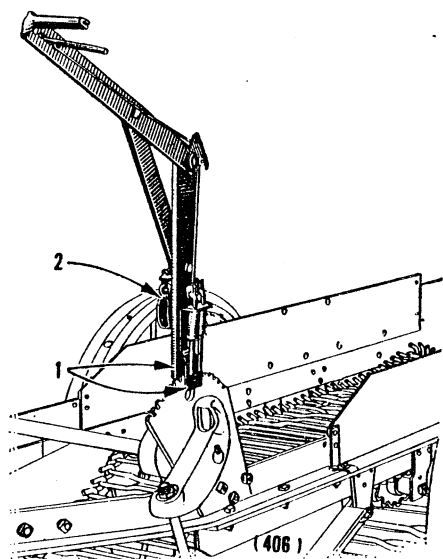

Figure 15
1. (Figure 15) Slide the lever over the sector and attach to the lever foot casting. The two large round holes in the sector permit insertion of the plow bolts holding the lever. The long plow bolt is used in the bottom hole.
2. (Figure 15) Attach pulley (found in bag) to the lever of the right-hand digger.